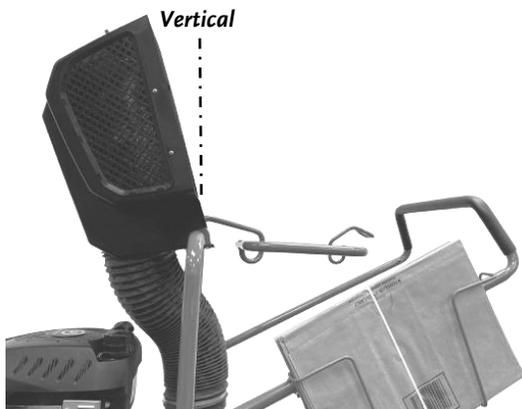

Figure 15
1. Locate the Cover Latch Handle (Figure 14), then lift the handle to open the Bag Top Cover. Lift the Bag Top Cover just past vertical where the Bag Top Cover will stay up by itself. (Figure 15).